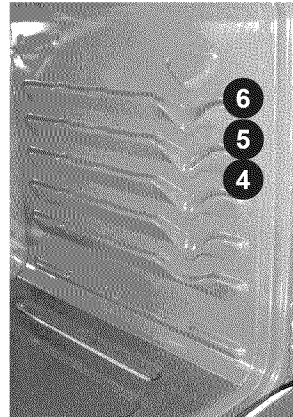

Fig. 1
6. Place the broiler pan and insert on the oven rack (if equipped - See Figs. 1 & 2).